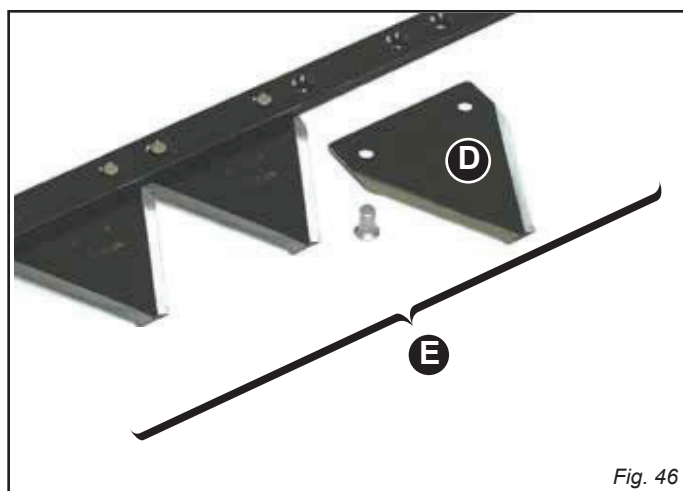

Fig. 46
#### REPLACEMENT OF SECTION-HOLDING BAR (E, Fig. 46)
#### REPLACEMENT OF SECTIONS (D, Fig. 46)
- Rivet a new section with the rivets provided (D, Fig. 46).